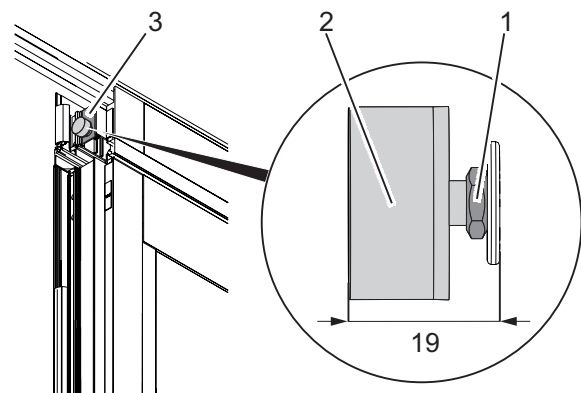

Fig. 24: Lateral alignment of the panels
The lateral distance of the panels is adjusted via rubber buffer (Fig. 24/2). The lateral distance between two panels (without brushes) at delivery is  $5 \pm 2$  mm. In order to achieve this distance, there is a 19 mm distance between the upper edge of the rubber buffer (Fig. 24/2) and the plastic edge (Fig. 24/3). If necessary, readjust the lateral distance.
2. Adjust the rubber buffer via the nut (Fig. 24/1) until there is a distance of 19 mm between the upper edge and the plastic web (Fig. 24/3).